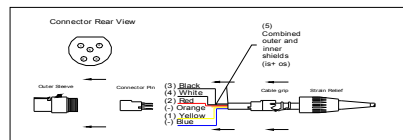

Fig 2.2
11. Solder wires and paired shields to the rear of the connector pins as shown in fig 2.2.